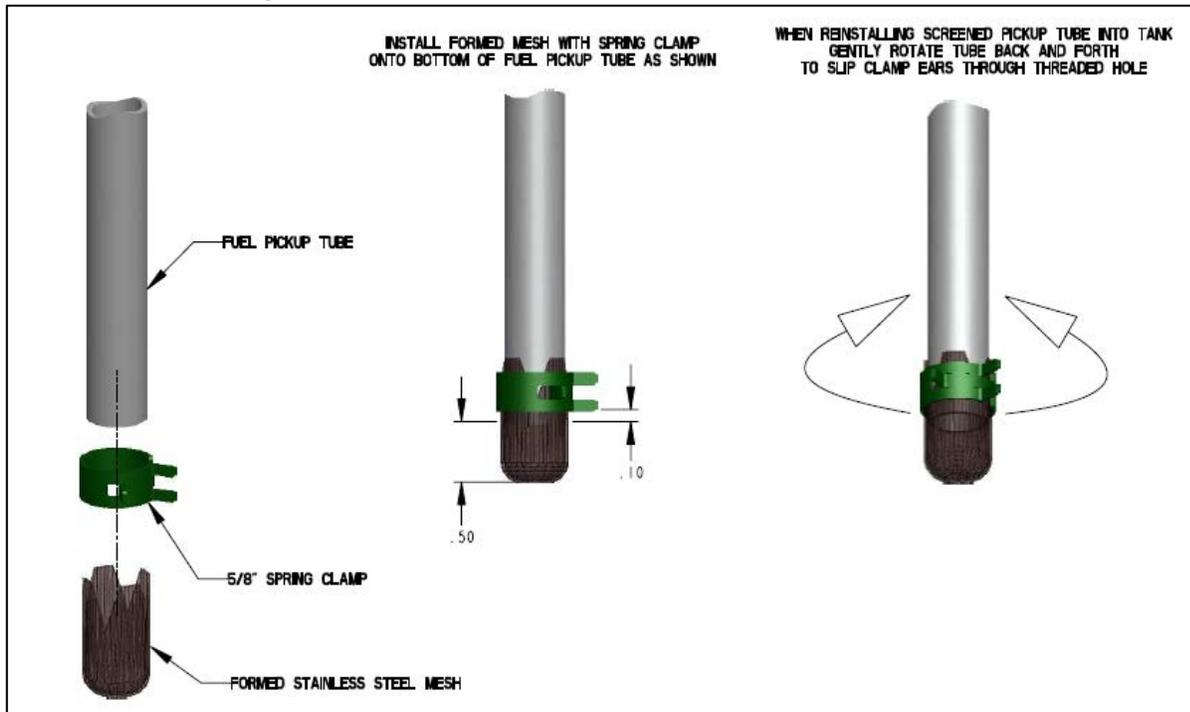

Figure 6
- 13) After retrieving the components from TBB 184921, take the fuel pick-up tube and install the screen on the end of tube as shown in Figure 6.